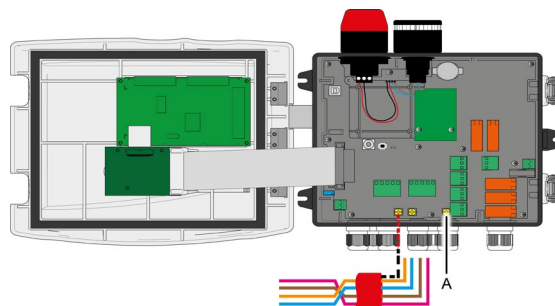

Figure 24: Ground and braid connection
6.1.4 Grounding The *MX32v2* meets EMC and Low Voltage Directives requirements. In order to fully comply with the class of protection, it is absolutely necessary to connect the ground terminal to the Earth of the site (Figure 24, A). Moreover, the cable braids of the digital and analog lines shall also be connected to this ground terminal.